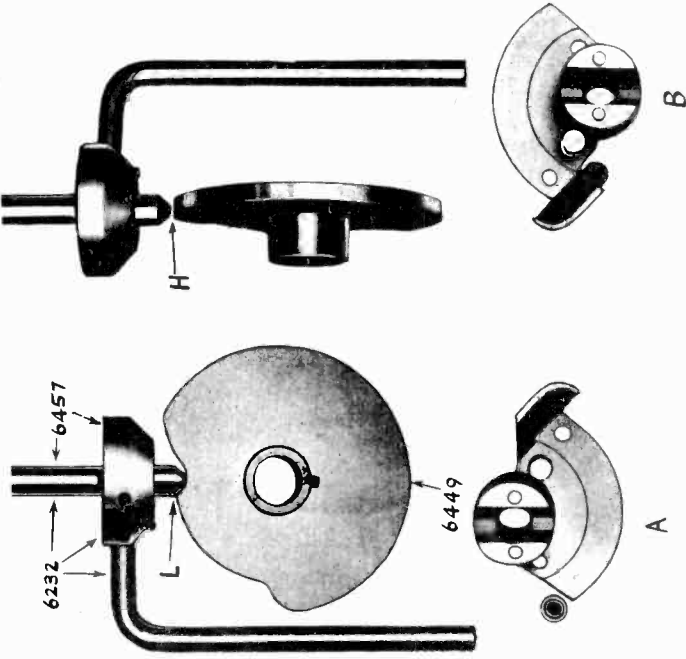
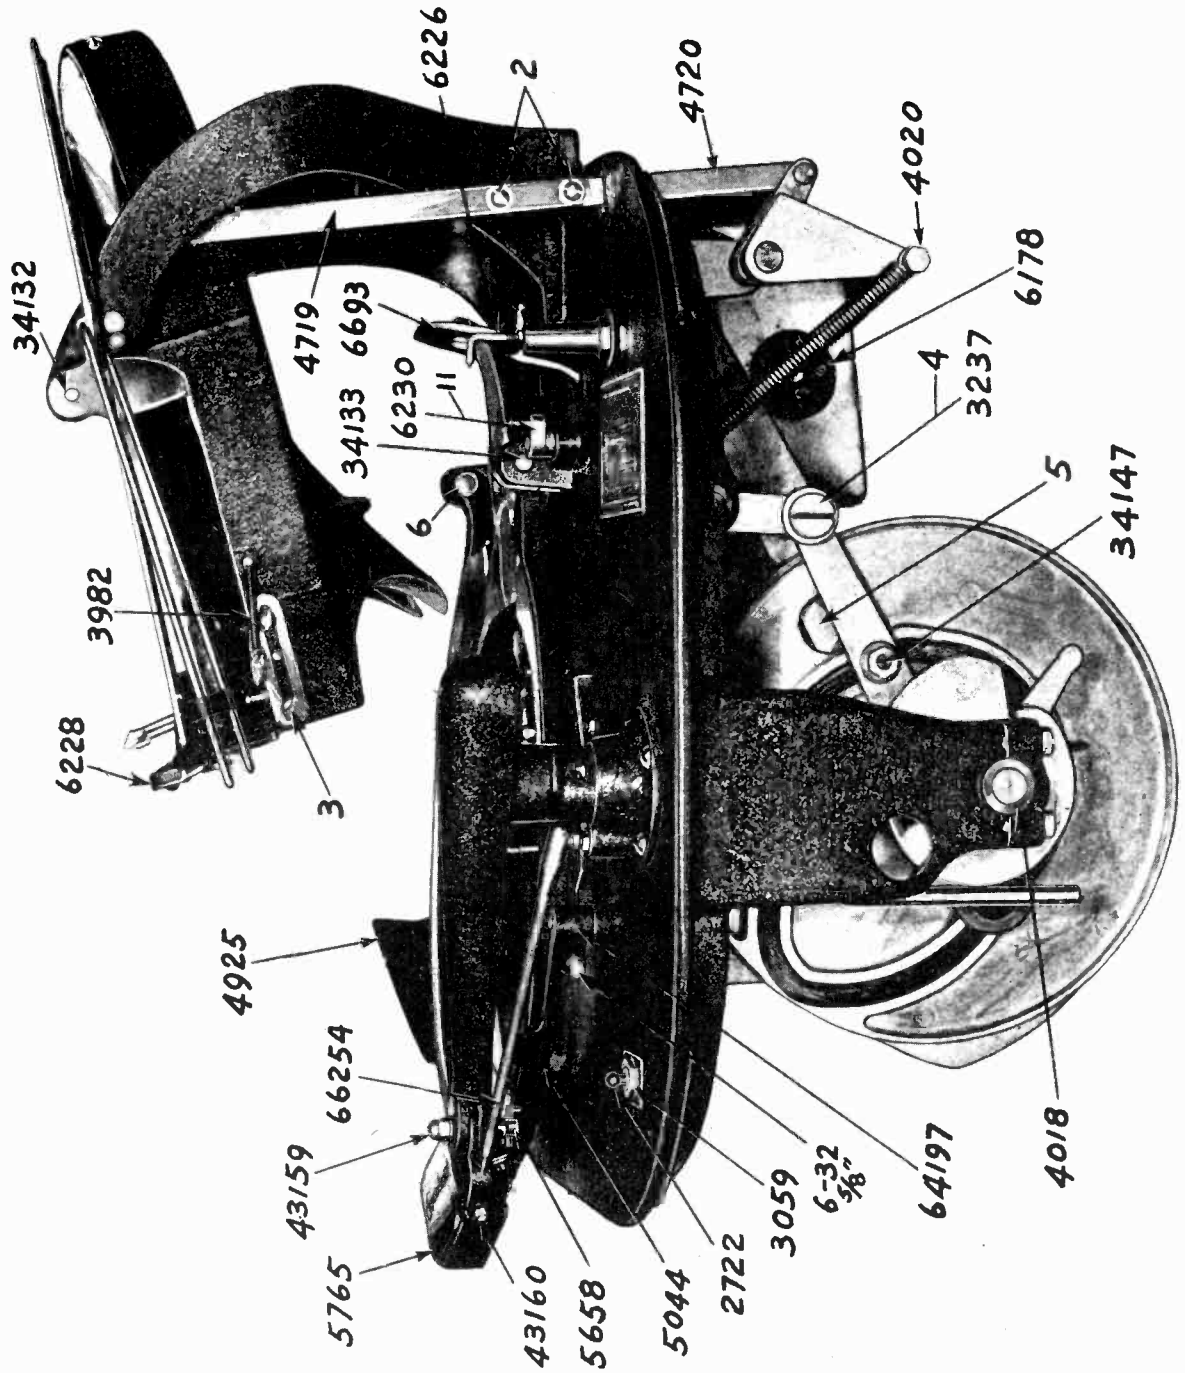

Fig. 9
Fig. 1
#### 10. RECORD MAGAZINE BUSHING (4020) (Fig. 1).
If a ringing noise is heard while the instrument is changing records, i. e., such a noise that might be made by a spring, it will be found that the Durex bushing (4020) (Fig. 1) is too tight, in which case it will be necessary to loosen the lock nut of the holding bolt, and back the bolt out, from a quarter to a half turn, then tighten the lock nut.
To adjust the tone arm height, first place a 12" record on the turntable, and adjust the tone arm stop lever (64197) (Fig. 1) so that the record hits the rubber roller (5044) (Fig. 1) in the center. Start the record changer through a cycle and stop; it when the tone arm lever hook (5658) (Fig. 1) just touches the stop lever assembly. In this position, adjust the tone arm height so that the top of the stop lever is the same height as the center of the hook. This adjustment is made by loosening the two Allen set screws at the rear of the tone arm. These Allen set screws are accessible by raising the tone arm by hand. After making the height adjustment it is necessary to make certain that there is a clearance of approximately  $\frac{3}{8}$ " between the pickup head and the record tray. This distance may be checked between the bottom of the record tray and the bottom of the pickup when the record tray is approximately parallel with the pickup.
When the tone arm swings in towards the record, the pickup arm lever hook (5658) (Fig. 1) comes to rest against the pickup arm stop lever (64197) (Fig. 1) and when the tone arm lowers the pickup toward the record it pauses momentarily before the pickup arm lever hook goes through the stop lever. If the record changer is stopped during this pause, it will be found that the ball in the end of the pickup arm lift shaft (6457) (Fig. 9) is at the point marked "L" in Fig. 9 on the lift cam (6449) (Fig. 9). Now if the pickup, with a needle in the proper position, is moved beyond the edge of the record, the point of the needle will extend below the top surface of the record a distance equal to half the thickness of the record. The correct elevation of the pickup is made by the screw in the underside of the tone arm fork against which the pickup cover rests. Loosen the locknut, adjust the screw to bring the needle to the position mentioned above, then lock the locknut.
The collar of the pickup arm swing lever and collar assembly (6232) (Fig. 9) should ride on the leather facing of the friction cam (6691) (Fig. 10) until the pickup arm lever hook (5658) (Fig. 1) has engaged the stop lever (64197) (Fig. 7). Then a slight amount of friction should be maintained after the ball at the end of the pickup lift arm (6457) (Fig. 9) has engaged with the lift cam (6449) (Fig. 9). This friction should be maintained until the needle has touched the record, otherwise the pickup arm may move away from the stop lever and the needle miss the record. If the friction be maintained too long the needle may be forced beyond the first playing groove. To adjust this, the pin locking the friction cam to the main cam shaft should be driven out and the Allen set screw loosened to a sliding tension. The cam is rotated forward, in the direction of rotation of the main cam shaft, to maintain the friction a longer time and backward to maintain it for a shorter time.
#### 15. TO ADJUST THE STOP LEVER HOOK (5658) (Fig. 1).
Always adjust the tone arm position on a 12" record before adjusting for a 10" record. Adjust the tone arm stop lever hook (5658) (Fig. 1) by moving it in or out. This hook is locked in place by a set screw in the
2. Remove the two bolts, one (3238) (Fig. 4) securing the magazine slide and roller assembly to the magazine slide arm lever, and one (3237) (Fig. 1) securing the record slide arm and stud assembly to the record tray drive crank.
ball in the end of the tone arm lift rod (6457) (Fig. 9) travels in the exact center of the tone arm lift cam (6449) (Fig. 9). As shown at H in Fig. 9.
Remove the magazine link shoulder screw (3239) (Fig. 6). This will allow the magazine to be swung out of the way. As soon as the record reverse arm and fork assembly have cleared the reverse crank and pin (6230) (Fig. 1) it should be swung over the magazine and locked with the record reverse arm lock (4659) (Fig. 6), to keep it out of the way.
When adjusting the TRUE-TANGENT pickup, the pickup head and tone arm should form a straight line when the needle is exactly one and one half inches from the point of the turn table drive shaft (4320) (Fig. 6). To adjust the pickup angle, loosen the nut at the rear of the steering arm assembly (6625-1) (Fig. 1), turn the steering arm either right or left until the correct position for the pickup is found, then set the lock nut up tight. Then see that there still is  $\frac{1}{8}$ " clearance between the pickup and the record tray per Section 11.
10. Locate the main shaft so that the lower end of the pickup arm lift shaft travels in the center of the pickup arm lift cam, as shown at "H" in Fig. 9. With the main shaft in this position, adjust the main shaft Durex bushings so that there is no end play in the main cam shaft assembly.
13. Mesh the reverse cam assembly driver gear (3516) (Fig. 10) with the reverse cam assembly driven gear so that the identifying punch marks correspond to the original position. The taper pin for the driver gear should be inserted next. If the assembly has been properly made there should be approximately  $\frac{3}{32}$ " clearance between the roller or the reverse cam arm and the reverse cam. See "A", Fig. 9.
14. Throw the control lever to the "One Side" position and rotate the reverse cam with the fingers until it is in the reversing position. Again throw the control lever to the "Both Sides" position. Now there should be approximately  $\frac{3}{32}$ " clearance between the reverse cam and the roller. See "B", Fig. 9. If the clearance is not approximately  $\frac{3}{32}$ " for both positions of the reverse cam it indicates either the gears are not properly meshed or the reverse segment link rod may be bent. A careful check of the latter while the main shaft is out will save time and trouble later.
Remove the female chassis plug, from the male chassis plug (6178) (Fig. 1), the pickup lead, which runs from the radio chassis to the terminal block, then dismount the terminal block by removing the wood screw in its center, the straps holding the shielded lead, which runs from the shorting switch, and the 110 volt leads to the Play Control.